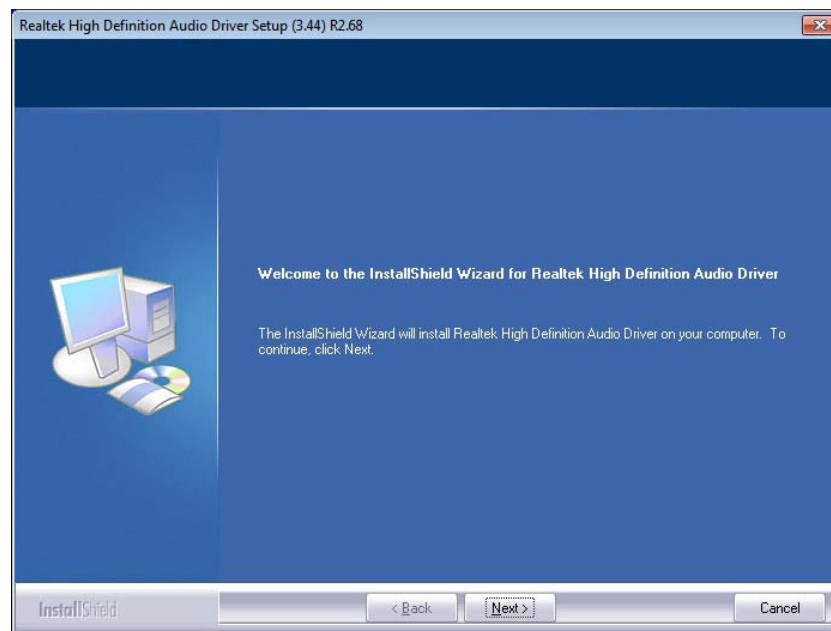

Figure 6-19: InstallShield Wizard Welcome Screen
- Step 5:** Once initialized, the **InstallShield Wizard** welcome screen appears (**Figure 6-19**).